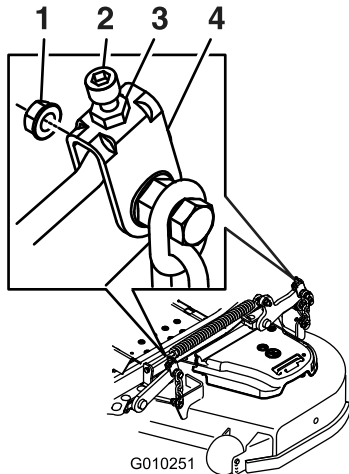

Figure 91
11. For mower decks shown in Figure 91, fine-tune the adjustment nut on the front deck lift assembly by turning it (Figure 91).
17. Fine tune the screw adjuster by turning it to get 8.3 mm (3-1/4 inches) height (Figure 91).